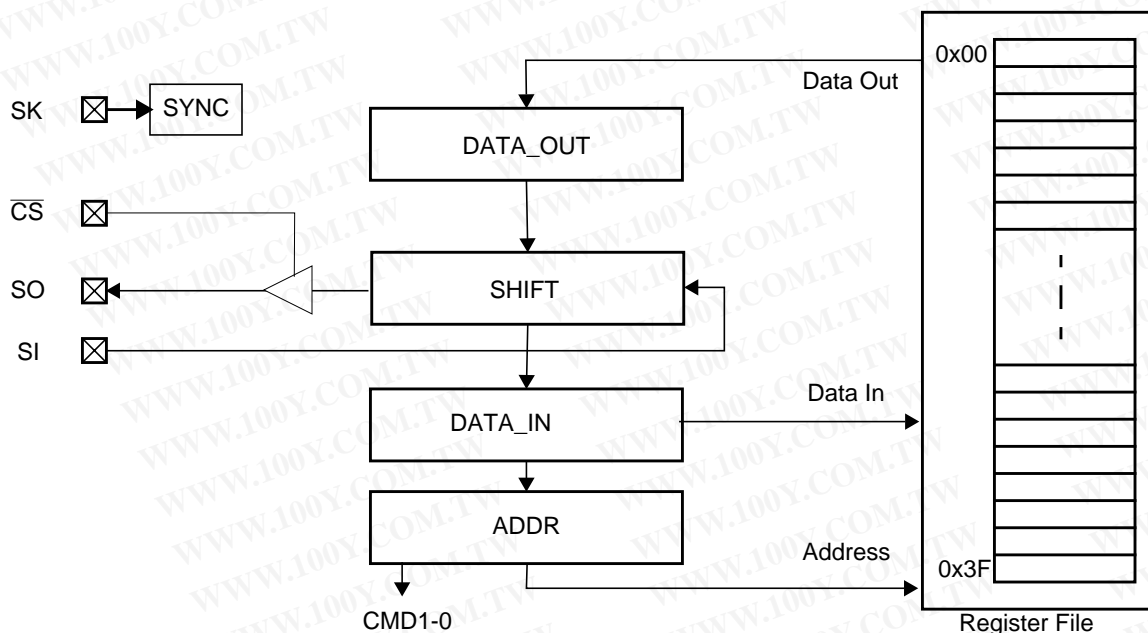

Figure 14. MICROWIRE/PLUS Interface Block Diagram
The MICROWIRE/PLUS interface allows the USBN9603 to function as a CPU or microcontroller peripheral via a serial interface. This mode is selected by pulling the MODE1 pin high and the MODE0 pin low. The MICROWIRE/PLUS mode uses the chip select ( $\overline{CS}$ ), serial clock (SK), serial data in (SI) and serial data out (SO) pins, as shown in Figure 14.